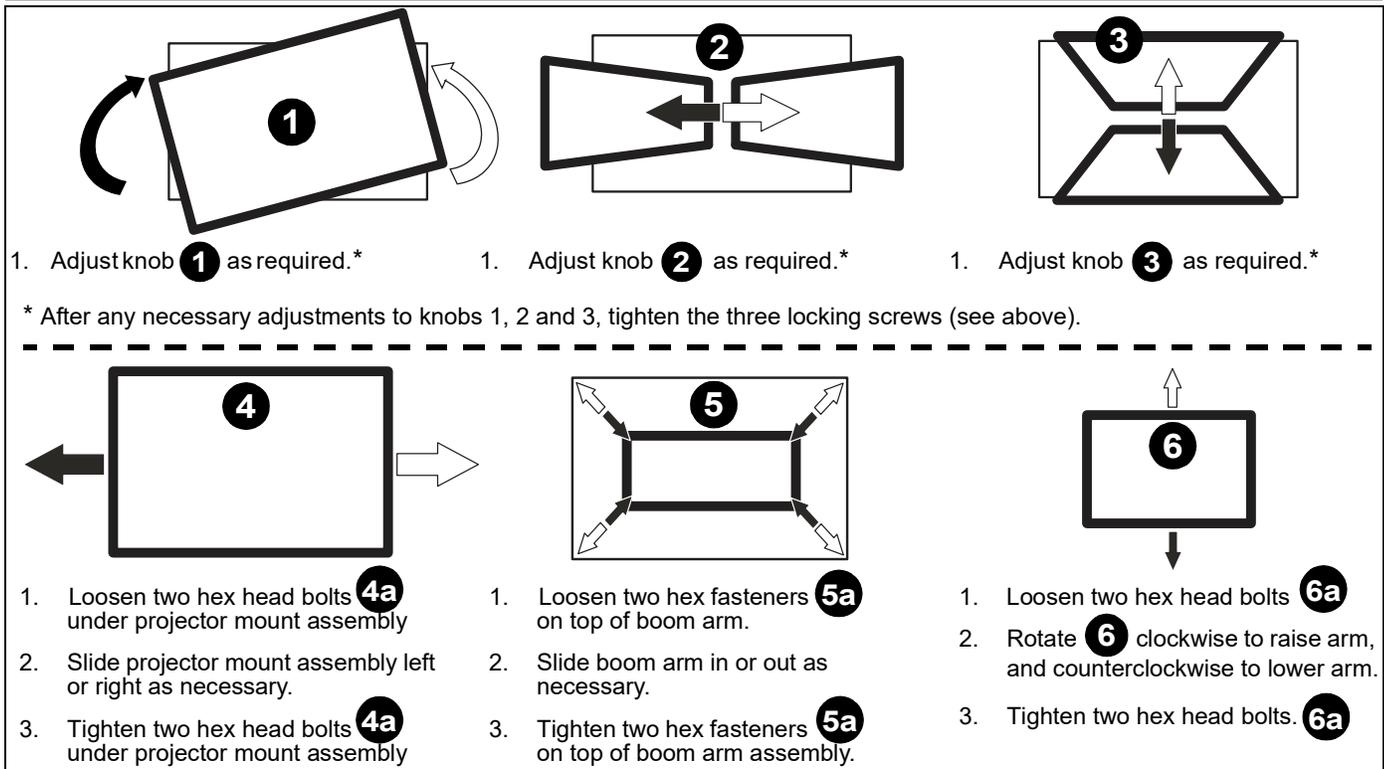

Figure 23
NOTE: Use the test pattern projected on the screen to roughly align image to screen, and make the necessary adjustments following projector mount illustrated adjustments (See Figure 23) and installer tips listed below.
- Use tool-less knobs on the projector mount to pre-align the projected image. (See Figure 23)